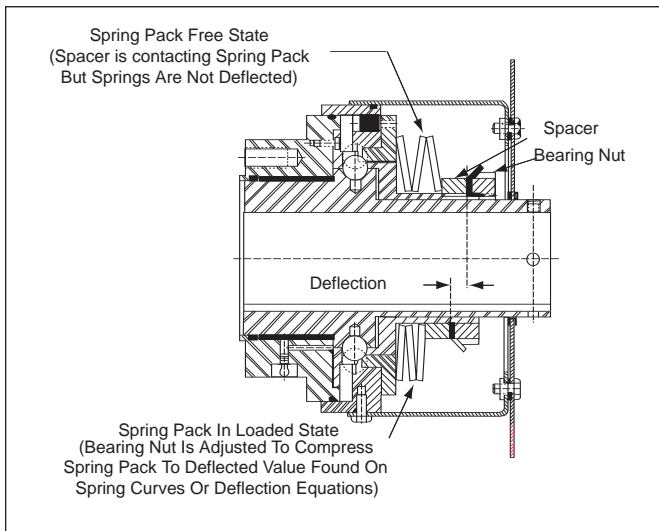

Figure 15
- C. The amount of adjustment required (spring deflection) can be estimated by counting the turns of the bearing nut or can be measured as shown in Figure 15.